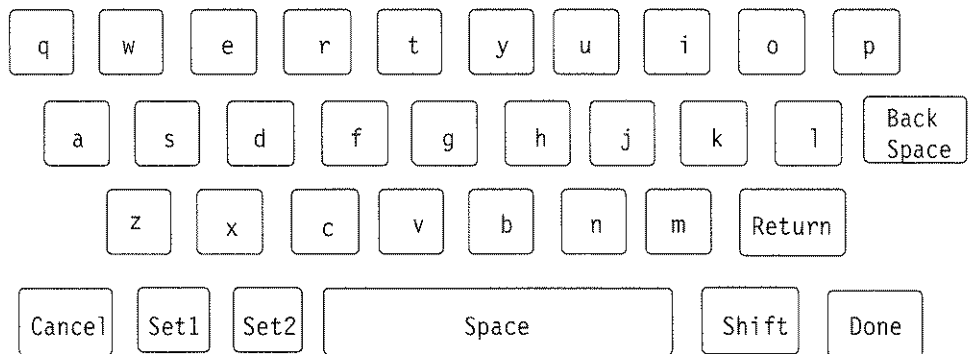

Figure C-2: Option Key control menu
2. Touch the **Option Key** soft key. This brings up the Option Key control screen as shown in Figure C-2. Several lines of information are shown related to the instrument identification number, the software identification number, and the option authorization key for your instrument. Note the option authorization key and record it for use when placing an order for a firmware upgrade.
3. Touch the **Option Key** soft key. This will display the option key control menu (see Figure C-2).